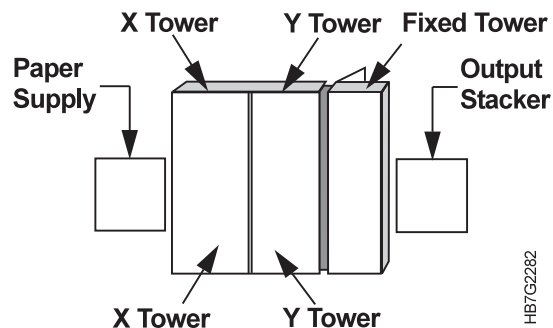

Figure 69. Right Side View of the InfoColor 70
- 1 Open the fixed tower door on the left side of the machine, as shown in Figure 69.